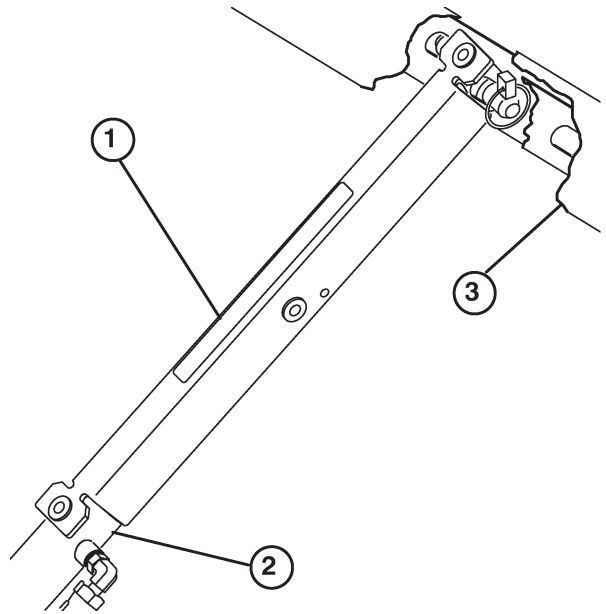

Figure 36
3. Push bed support onto cylinder rod, making sure support end tabs rest on end of cylinder barrel and on cylinder rod end (Fig. 36).